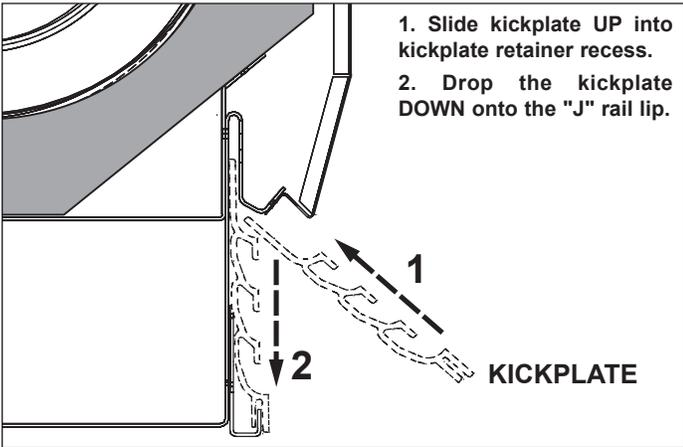

Fig. 7 Kickplate installation
- 11. Insert top of kickplate into the kickplate retainer. Slide the kickplate up into the retainer, then down onto the "J" rail (Fig. 7). Be certain that the bottom of the kickplate is fitted over extruding "lip" of the "J" rail.